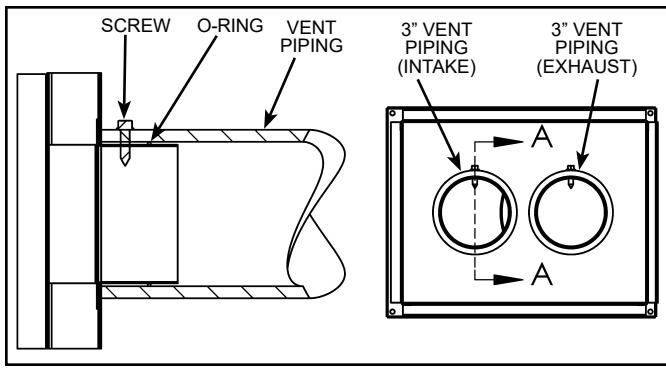

Figure 28.
2. Thoroughly inspect the vent termination for any damage (see Figure 28).
4. Drill 7/64" pilot holes for a #8 screw (see Figure 28). Take care not to damage the O-ring.
5. Secure the vent piping to the air box with screws (see Figure 28).